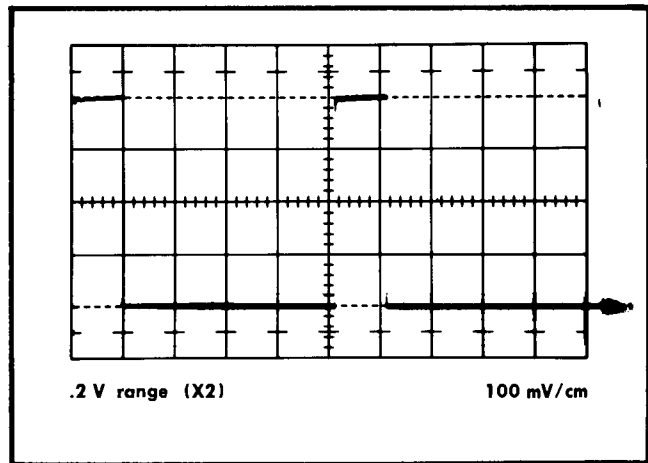

Fig. 6-3. Typical test oscilloscope display for checking remote amplitude range operation.
- Position the base of the pulse display 1 cm above the bottom graticule line (see Fig. 6-3).